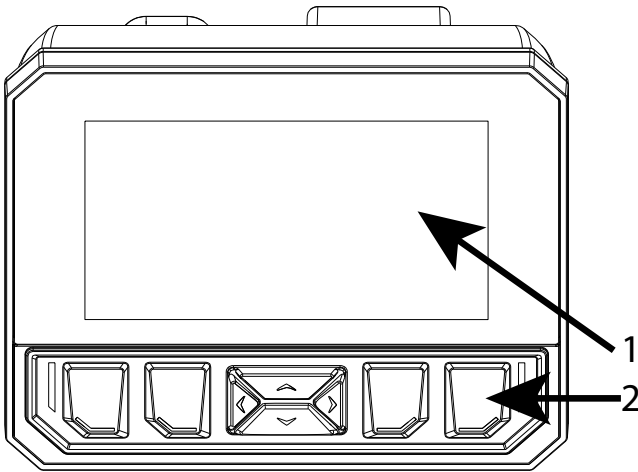

Figure 4-3. InfoCenter Display
12. **Fuel Shutoff Valve (Figure 4-3).** Located on the left side of the machine on the operators platform. Used to shut off fuel supply to the engine and change fuel supply between the fuel tanks.
The InfoCenter LCD display shows information about your machine, such as the operating status, various diagnostics and other information about the machine (See Figure 4-3). There are three screens to navigate left and right. You can switch between the screens and main information screen at any time by selecting the appropriate directional arrow.